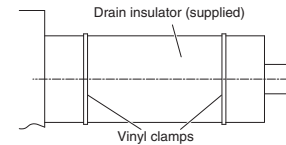

Fig. 3-25
- (2) After checking the drainage, wrap the supplied packing and drain pipe insulator around the pipe, then secure it with the supplied clamps. (Fig. 3-25)